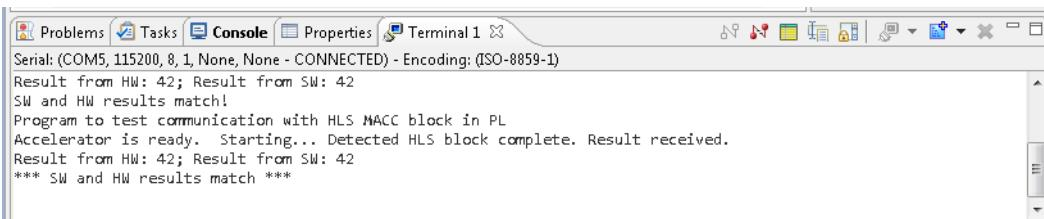

Figure 10-27: Console Output with Updated C Program
Upon success, the Terminal session looks similar to Figure 10-27.
1. From the Vivado HLS command prompt used in Lab 1, change to the lab2 directory as shown in Figure 10-27.